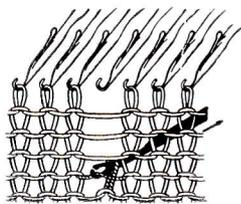

Fig. 31
- c. Using latch tool only and with a downward motion, place stitch behind latch and next horizontal thread into the hook of the needle. (See Fig. 31, 32)